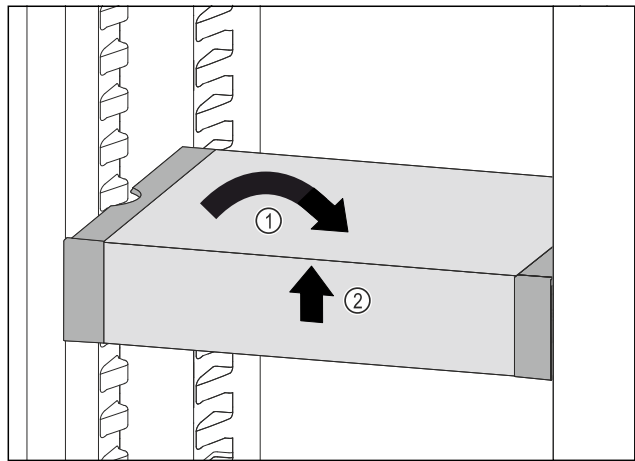

Fig. 64
- ▶ Set VarioSafe straight. *Fig. 64 (1)*
- ▶ Lift VarioSafe at the front. *Fig. 64 (2)*